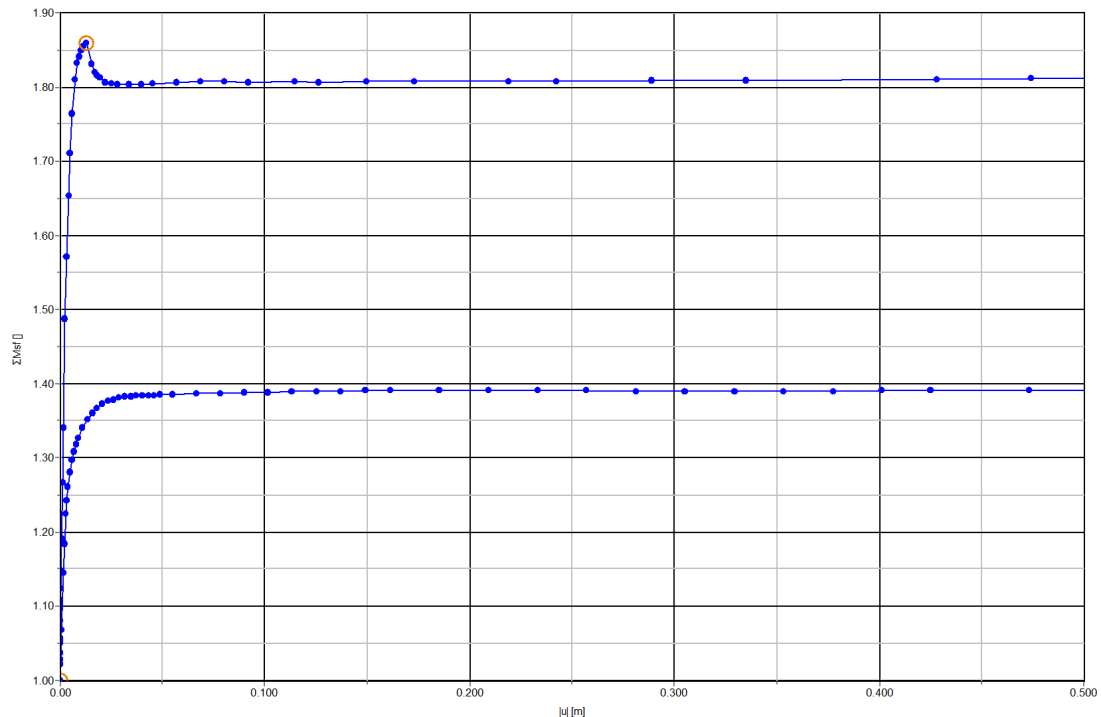

Figure 41: Evaluation of safety factor
12. Click **Apply** to update the chart according to the changes made and click **OK** to close the **Settings** window. The plot is shown as follows in Figure 41 (on page 50):